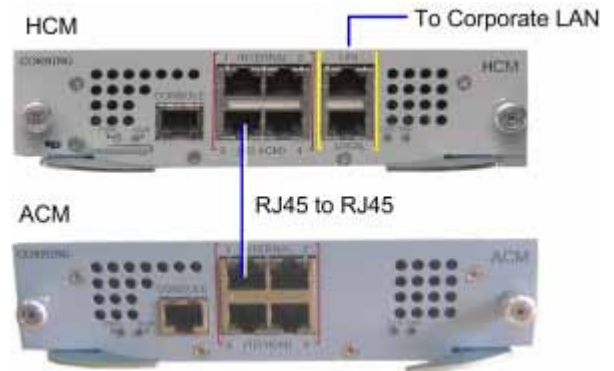

Figure 4-22. HCM LOCAL Port to ACM Port LOCAL Management Connection
1. Connect the HCM module LAN port to the corporate LAN using the provided RJ45/RJ45 communication cable. See Figure 4-22.
From HCM INTERNAL port to the ACM INTERNAL port (any of the four ports can be interconnected). Refer to Figure 4-22.